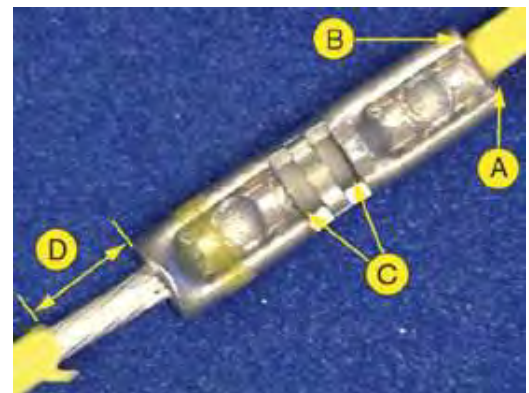

Figure 201
- c. Crimp indent is not off the end of the splice (see Item B of Figure 201).
- d. Wire end(s) are visible through the inspection window(s) (see Item C of Figure 201).
- e. Wire insulation gap is not greater than 2 wire diameters including insulation (see Item D of Figure 201).